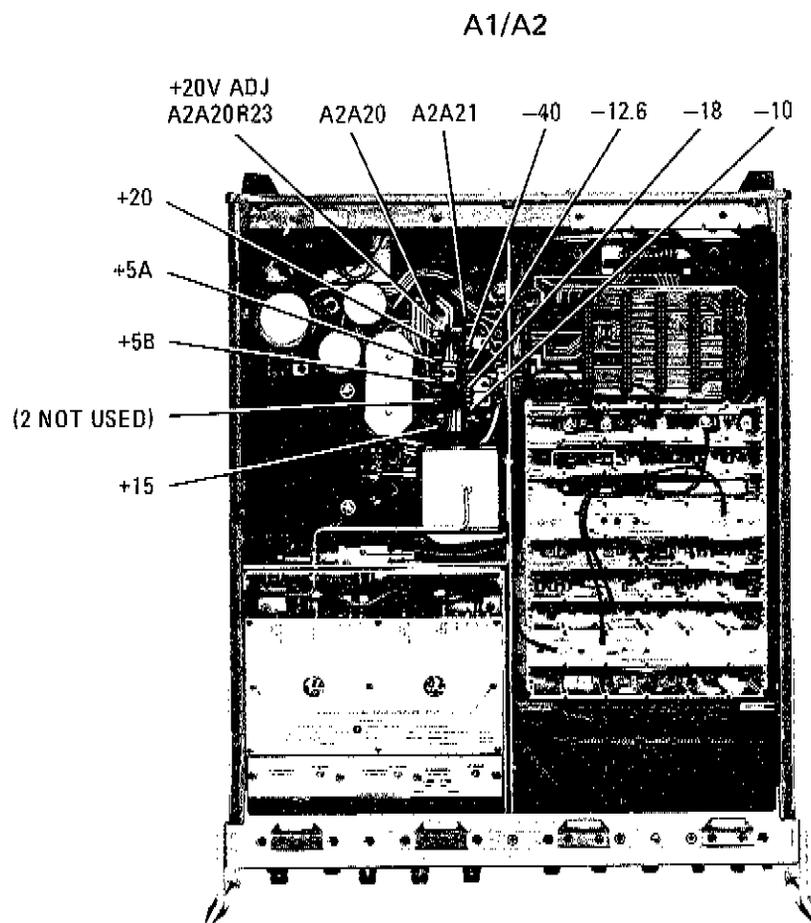

Figure A5-1. A2A20 and A2A21 Power Supplies
- b. Adjust +20V (A2A20R23) for +20.00 Vdc \pm 0.01 Vdc. (See Figure A5-1.)